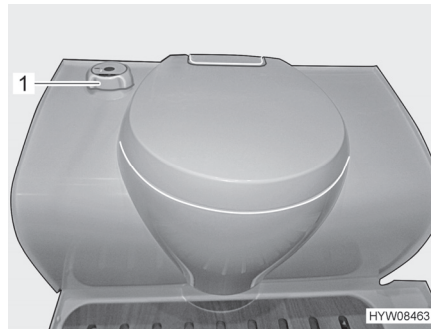

Fig. 200 Thetford toilet
- Turn the rotary handle (Fig. 200,1) in an anticlockwise direction.
- Turn the rotary handle (Fig. 200,1) clockwise.